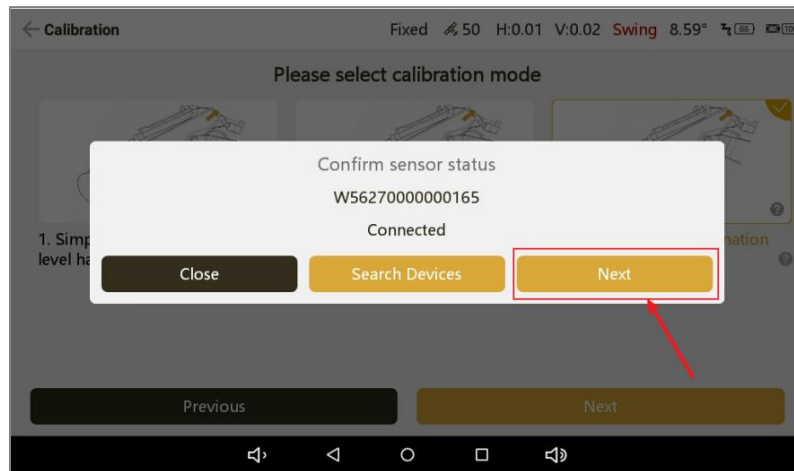

Figure 3-69
- ② Wait a few seconds for Bluetooth pairing to complete, as shown in Figure 3-69, then tap 'Next'.